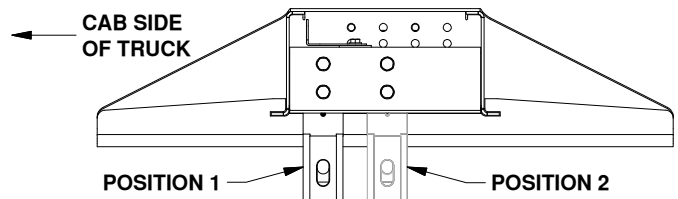

FIGURE B1: Cutaway view of Companion base with both socket post positions shown.
1. The socket post of the Companion hitch is designed to have two mounting options. In most truck models, the gooseneck socket will be forward of the axle and the companion socket post will install towards the cab of the truck (position 1). If your socket is located over the axle due to the frame configuration of your truck, as it is in the 2013 RAM 3500 trucks, install your socket post so the post is towards the rear of the truck. (position 2), see figure B1.